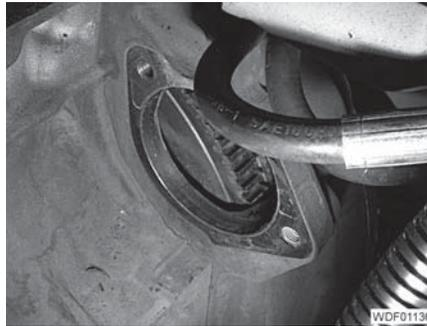

Fig. 420 Installation opening
- Mark the starter ring gear on the installation opening (Fig. 420) (e.g. with chalk).
- Insert the starter into the installation opening (Fig. 420).